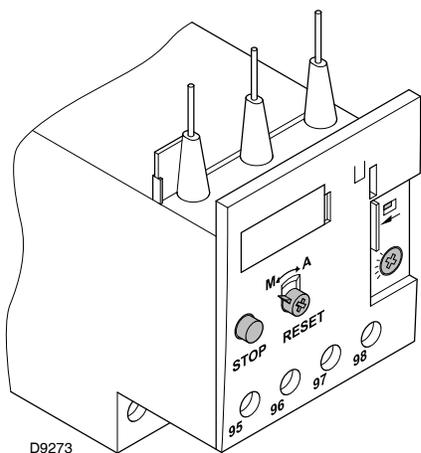

Fig. 29
The electro-mechanical thermal relay (Fig. 29) is used to avoid damage to the motor owing to a strong increase in absorption or the lack of a phase.
- To reset, in the case of an intervention of the thermal relay, press the button "RESET" (Fig. 29).
- The button "STOP" (Fig. 29) opens the NC (95-96) contact and stops the motor.